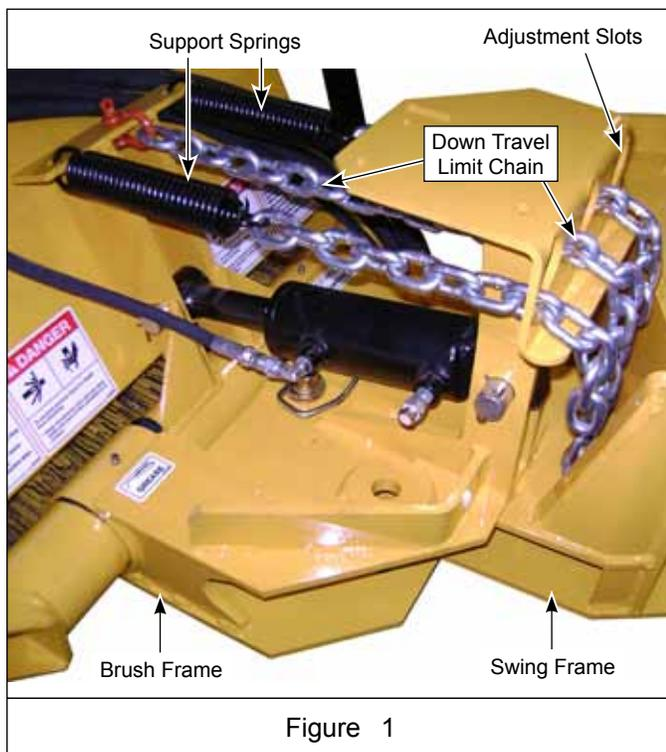

Figure 1
3. Disconnect the down travel limit chain from the center adjustment slot in the brush frame. See Figure 1.
9. If pattern is greater than 4", increase support spring tension. If pattern is less than 2", decrease support spring tension. Increase or decrease the two spring chain lengths in the outer adjustment slots in the brush frame. See Figure 1.